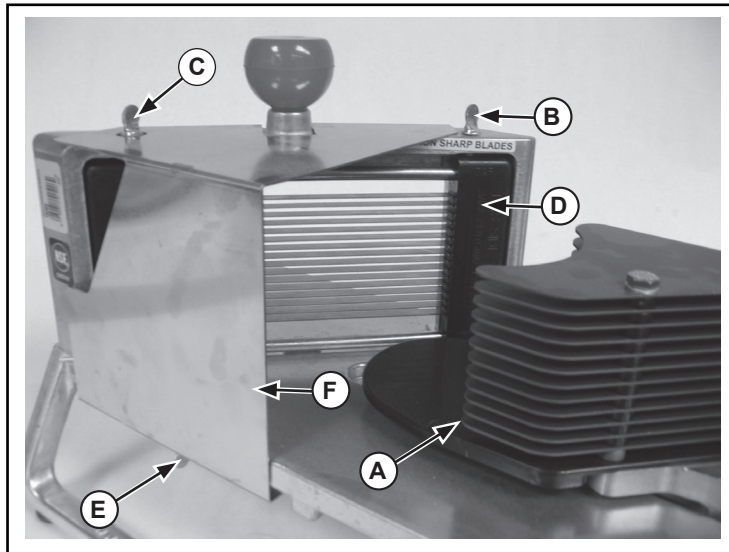
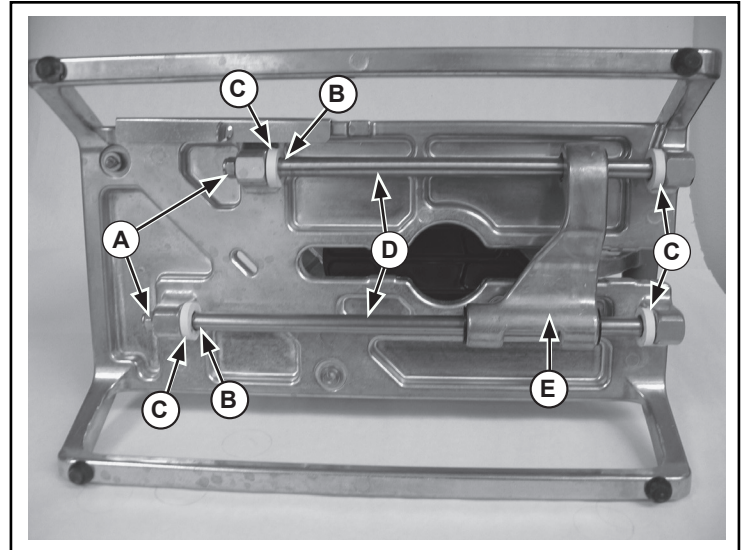
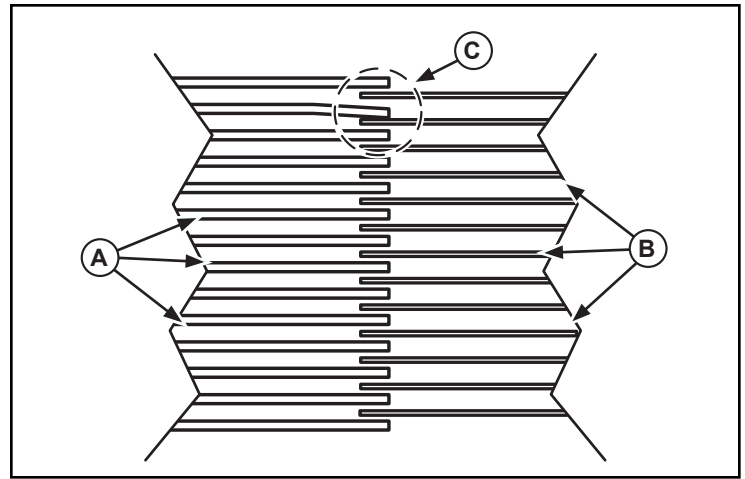

Figure 1. Blade Assembly and Guard Removal and Installation
Figure 2. Guide Rod, Nylock Nut and Washer Removal and Installation
Figure 5. Pusher Head Fingers and Blade Assembly
1. Slide the pusher head assembly (A) out and away from the blade assembly (D). See Figure 1.
4. Hold the guide rods (D) using a wrench on the flats (B) and remove the nylock nuts (A). See Figure 2.
5. Note the position and location of the washers (C) and orientation of the pusher head assembly (E). Slowly remove the guide rods (D) and washers (C).
6. Retain the nylock nuts (A) for reuse. Retain the washers (C) if they are going to be reused or discard if they are going to be replaced.
10. Install the guide rods (D) by sliding through bumpers (C) and pusher head (E) as shown in figure 2.
11. Secure the guide rods (D) using the nylock nuts (A) removed earlier.
15. Install the blade assembly (D) securing with thumb screws (B and C). See Figure 1.
1. Reinstall the guard (F) securing with thumb screws (C and E). Your InstaSlice™ is now ready to use. See Figure 1.
1. Note which pusher finger(s) (A) are making contact (C) with the blades (B). See Figure 5. See Figure 1.